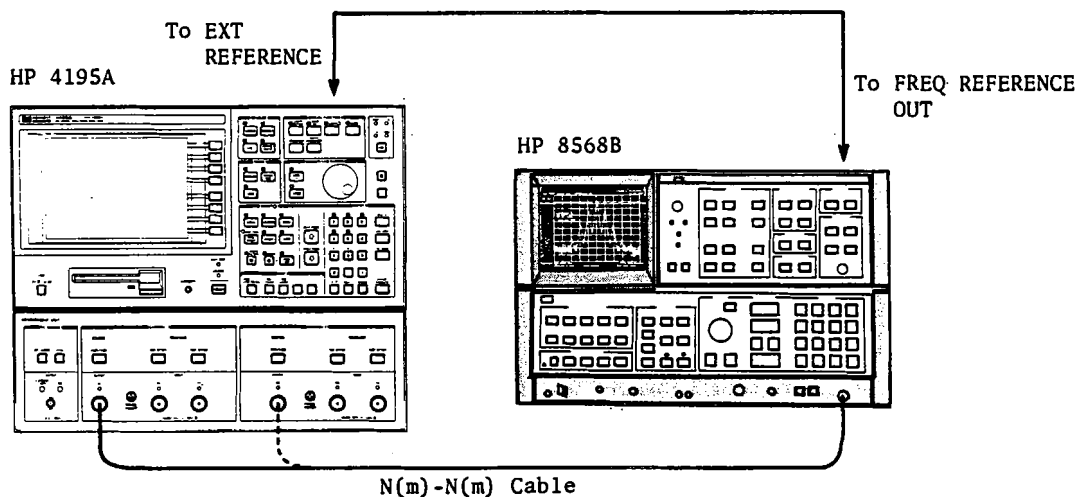

Figure 2-13. Second Harmonics Test Setup
2. Connect the N(m)-N(m) Cable between HP 4195A **OUTPUT S1** and the Spectrum Analyzer **SIGNAL INPUT 2**, and connect a BNC(m)-BNC(m) cable between HP 4195A's **EXT REFERENCE** connector and the spectrum analyzer's **FREQUENCY REFERENCE OUTPUT** connector as shown in Figure 2-13.